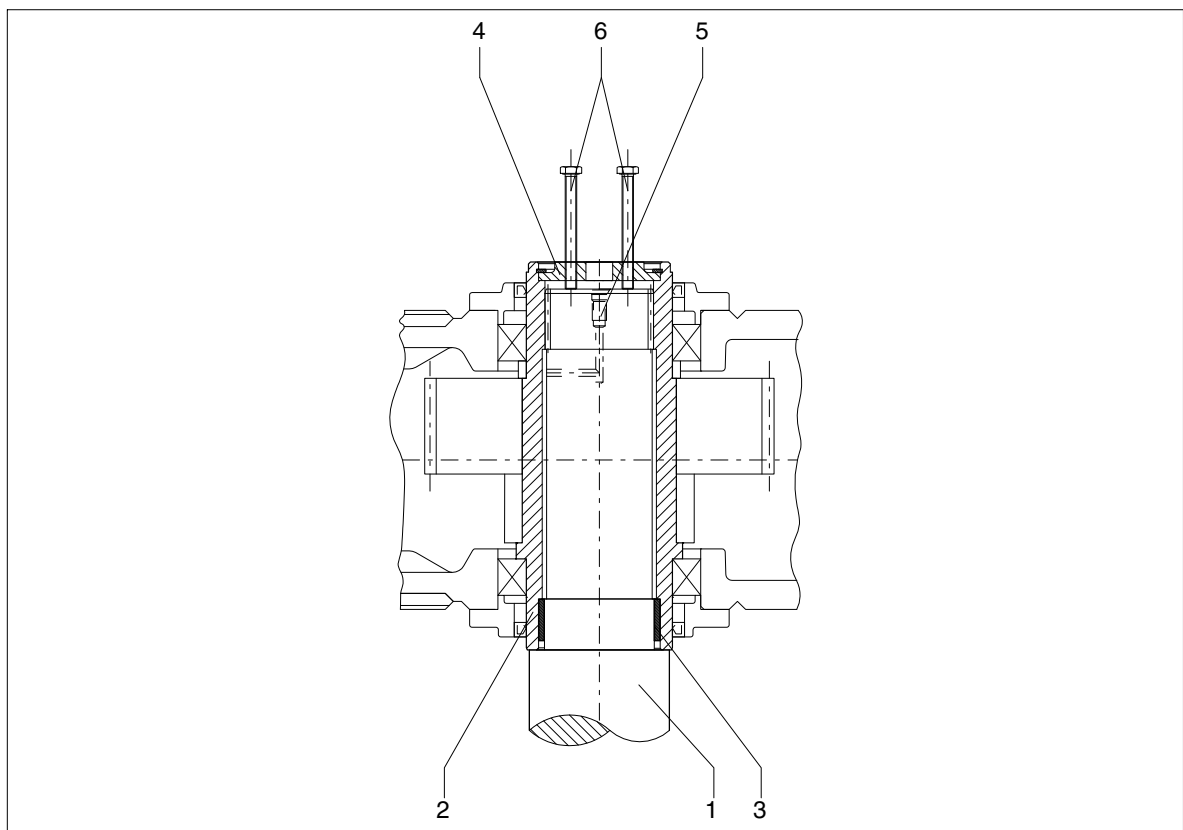
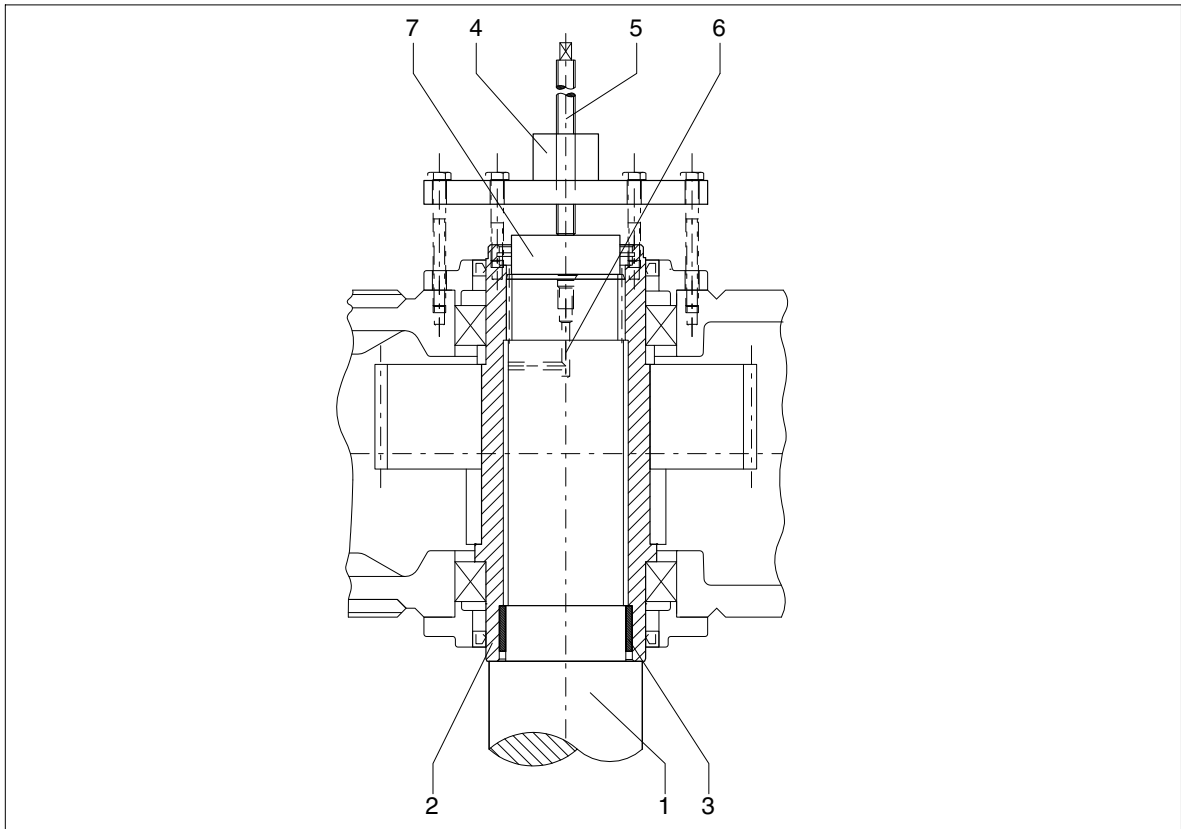

Fig. 61: Hollow shaft with splines, demounting with end plate
Fig. 62: Hollow shaft with splines, demounting with hydraulic lifting unit
- If frictional corrosion has occurred on the seating surfaces, rust-releasing agent may be used to facilitate forcing off the gear unit. The rust releaser can be injected through the pressure-oil connection (see figure 62), using a pump.
- When the rust-releasing agent has taken effect, pull the gear unit off using the device (see figures 62 and/or figure 61).
- preferably using forcing-off bolts in an end plate (see figure 61),